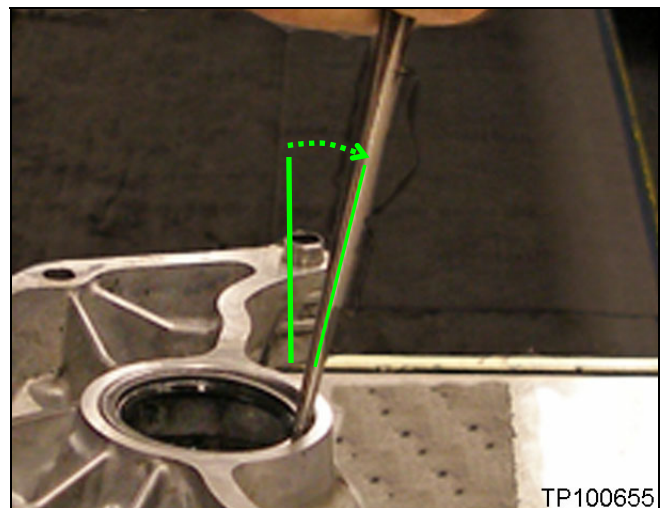

Figure 9
**CAUTION:** Angle the punch, making sure it does not scrape the transfer case's seal mating surface (see Figure 9).